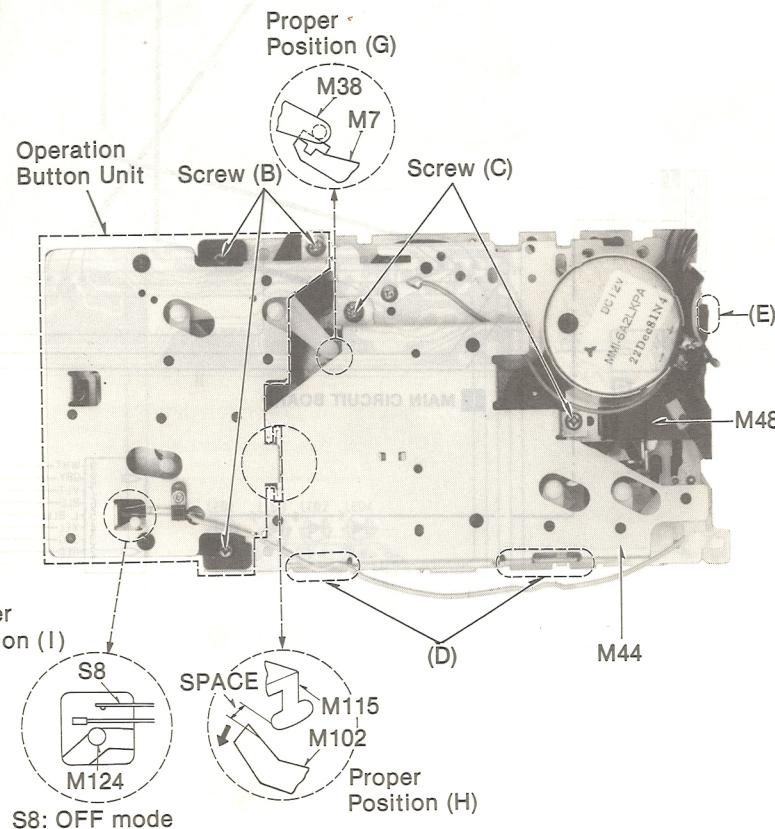
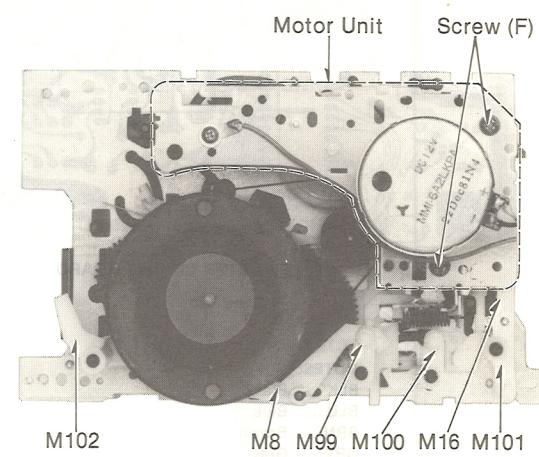

Fig. 2
Fig. 3
2. Remove three screws (B) and remove operation button unit (see Fig. 2).
3. Remove two screws (C) and hook at section (D) to dismount flywheel retainer (M44) (see Fig. 2).
4. Remove hook at section (E) and cord clamper (M48) (see Fig. 2), and then remove two screws (F) (see Fig. 3) to dismount motor unit.
Before installing the operation button unit in the mechanism unit, pull the play changing lever (M102) of the mechanism unit in the direction of the arrow until it is locked, and set the pause, F.F. and rewind buttons of the operation button unit to OFF. At this time, check that all parts are installed at their proper positions at sections (G), (H) and (I) (see Fig. 2).